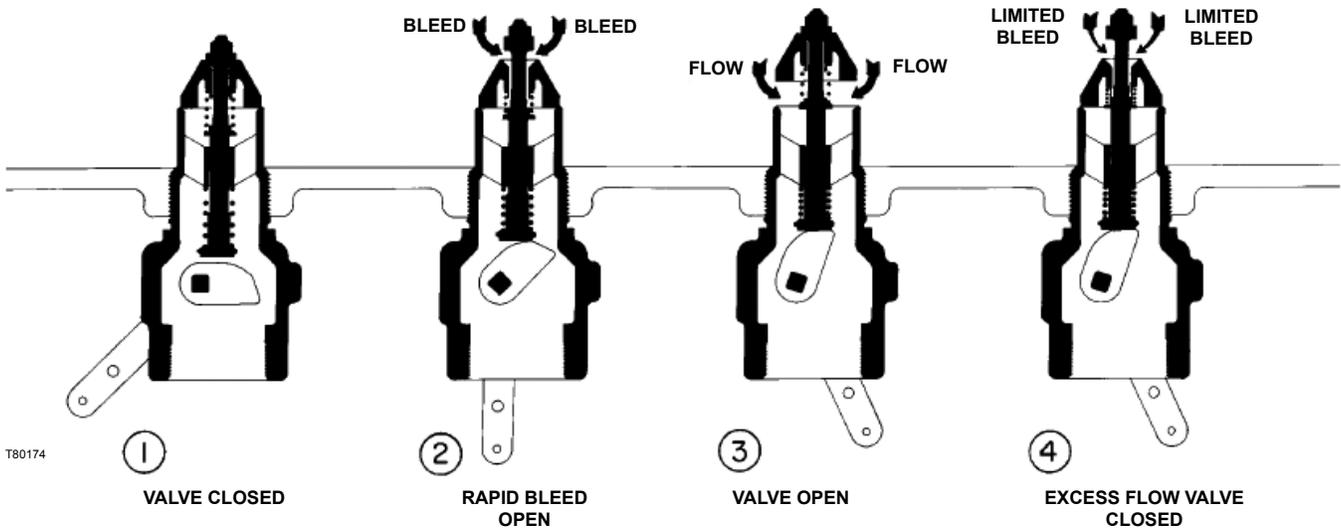

Figure 3. Operational Schematic
3. Move the lever to the half-open position (Figure 3, view #2) to equalize pressure. When the main poppet clicks open, move the operating lever fully open.
Refer to the schematic drawing, Figure 3. In view #1, the valve is held closed by both tank pressure and the valve's closing spring. There is no leakage past the resilient seats in the poppet to the valve outlet.